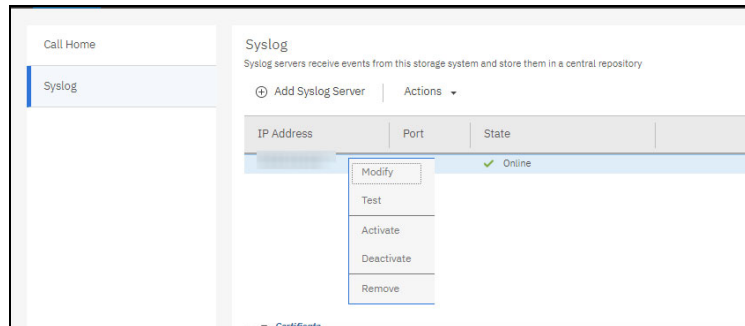

Figure 9-30 Modify Syslog configuration
8. After the required Syslog servers are created, you can **Modify**, **Test**, **Activate**, **Deactivate**, and **Remove** a selected Syslog server, as shown in Figure 9-30 on page 250.